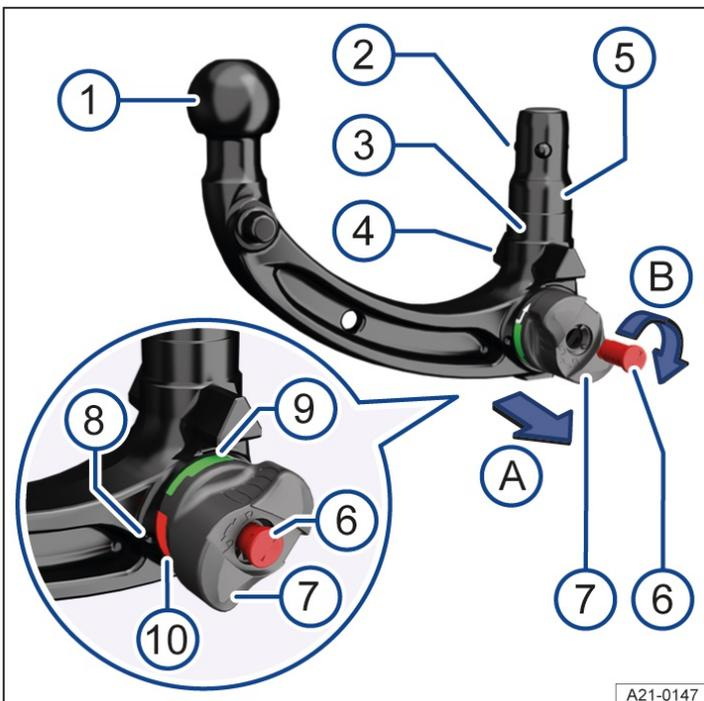

Fig. 1 Overview: removable ball coupling.
1. Before using the removable ball coupling for the first time, make a note of the number stamped on the key → Fig. 1 ⑥. This can be used if you need to acquire a replacement key.
4. Check to ensure that the mounting, handwheel → Fig. 1 ⑧, shank ⑤ and the retaining balls ② of the ball coupling are all clean and not damaged → ⚠. Clean if necessary.